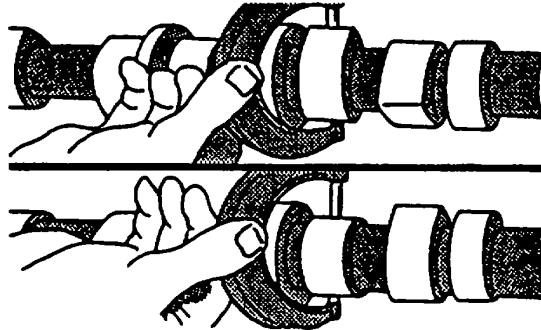

FIGURE 3-132. Measuring Camshaft Lobe Sight
- (1) Measure each camshaft lobe at highest point and at narrowest point, refer to FIGURE 3-132. Subtract narrowest dimension from highest dimension to find camshaft lobe height. If height is not correct on any lobe, install a new camshaft.
- (2) Intake lobe should be 0.273 to 0.292 inch (6.93 to 7.42 mm), with a minimum acceptable lobe height of 0.263 inch (6.68 mm).
- (3) Exhaust lobe should be 0.266 to 0.286 inch (6.76 to 7.26 mm), with a minimum acceptable lobe height of 0.256 inch (6.50 mm)